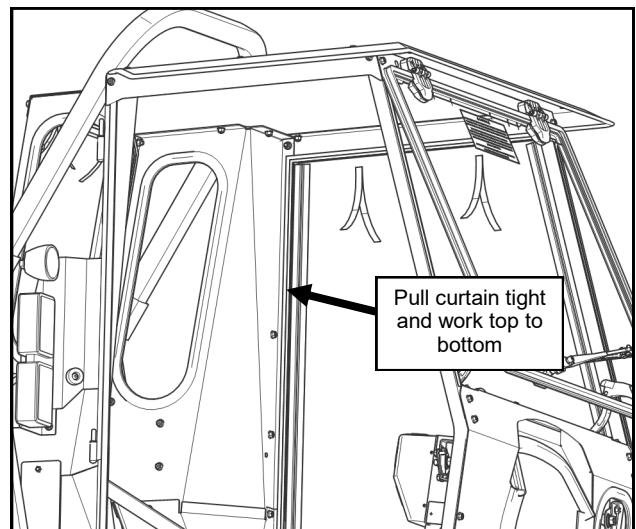

Fig. 29.6 (Adhere Door Curtain to Rear Leg)
29.6 See fig. 29.6. Remove the release tape and adhere the rear strip of Velcro to the inside of the rear leg, pulling tight and working down from the top. Trim the Velcro around the rivets at the lower rear corner and press the curtain firmly against the rubber filler.